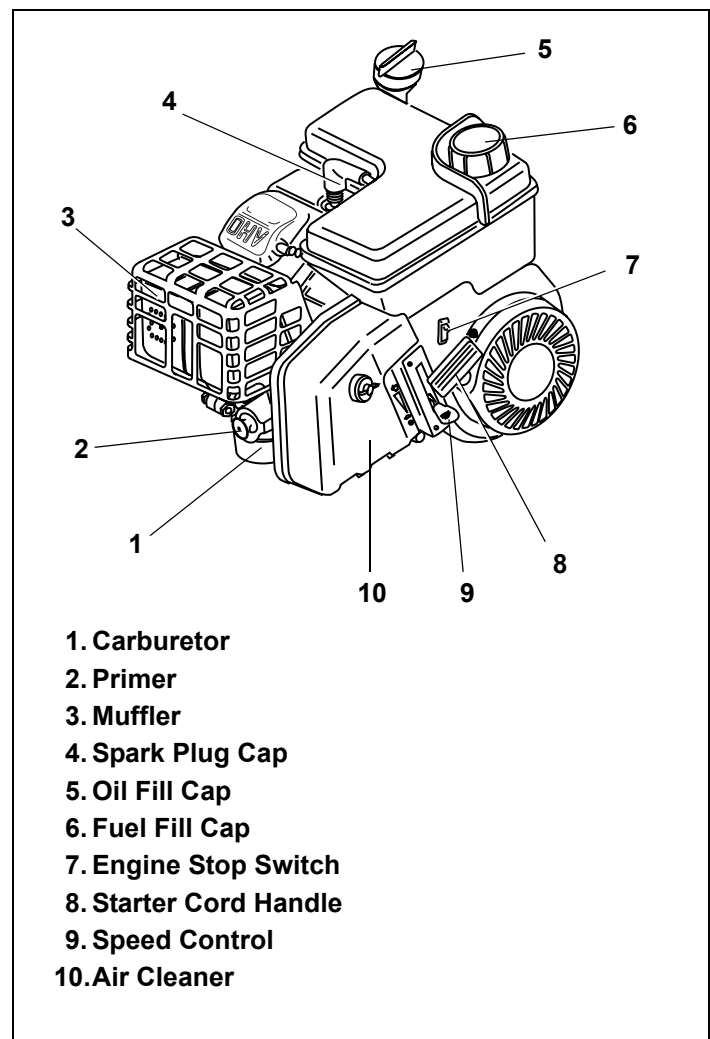

Figure 8. Engine with Oil Fill Dipstick
2. Unscrew oil fill cap from oil filler tube and wipe dipstick clean. See Figure 8.
3. Clean area around fuel fill cap and remove fuel fill cap. See Figure 8 on page 4.